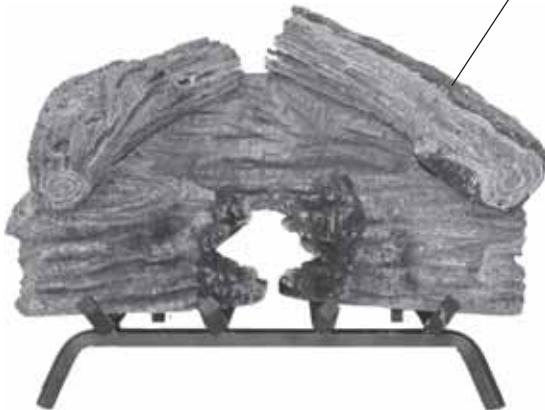

Figure 17 - Installing Right Side Middle Log (#5) and Left Top Log (#7)
6. Install right side middle log (#5). See Figure 17.